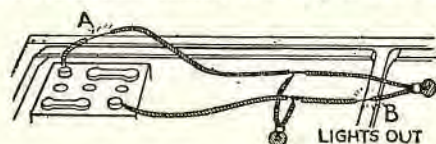

Fig. 3. A short circuit with wires which are supposed to be insulated from the frame.
For example, on a two-wire system, as in Fig. 3, if one wire was "grounded" to the frame of the car, as at (A), and the other wire of the circuit was grounded at (B), a "dead short circuit" would be the result, and the lights would not burn at all. The path of the current from the battery would be shortened, and as electricity takes the path of least resistance,* it would flow freely through the frame of the car instead of through the lamps, which are of higher resistance. The result would be that the battery would discharge at a very high rate. In fact, the effect in this instance would be the same as connecting a wire across the terminals of the battery, and unless the wire was of very large size, it would get very hot, or burn into and thus damage battery internally. For this reason fuses or circuit-breakers are used in some of the circuits such as the lighting and horn circuits, which are longer and are more exposed, and nearer to the frame, to dampness, etc.
An example of a short circuit on a single wire or grounded return system of wiring is shown in Fig. 4. Under these conditions we should have the same result as in Fig. 3.